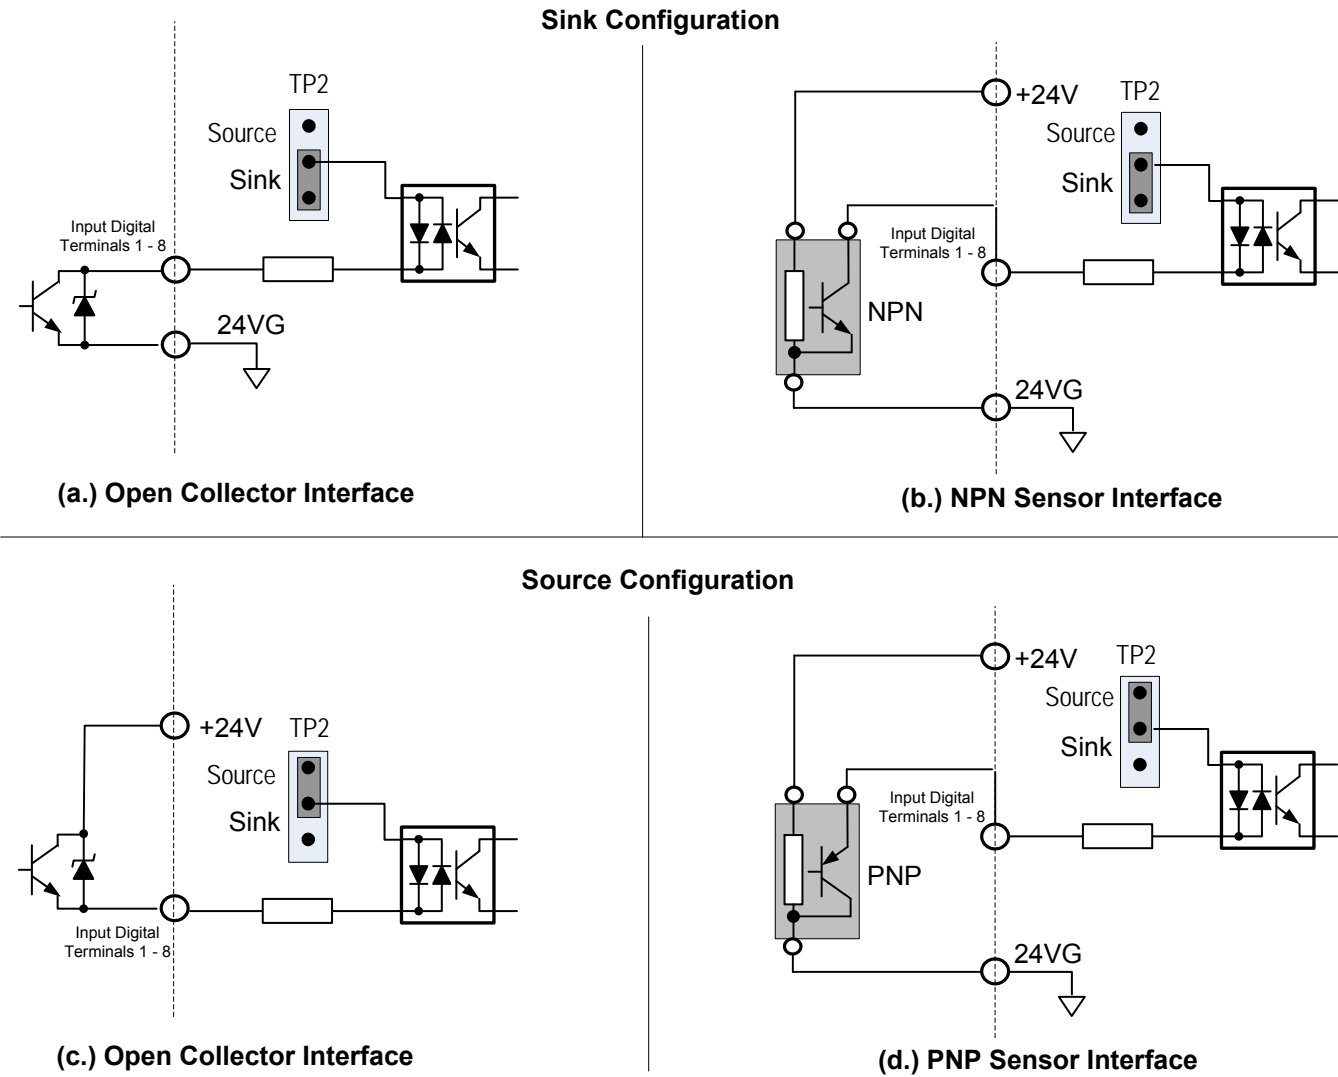

Fig. 4.2.3 Sink / Source Configurations
- (4) In Fig. 4.1.1b the control boards referenced have a jumper TP2 that can select the digital input to terminals ① - ③ to be set for SINK or SOURCE. The following Fig. 4.2.3 (a) – (d.) show examples for the various SINK / Source interfaces.